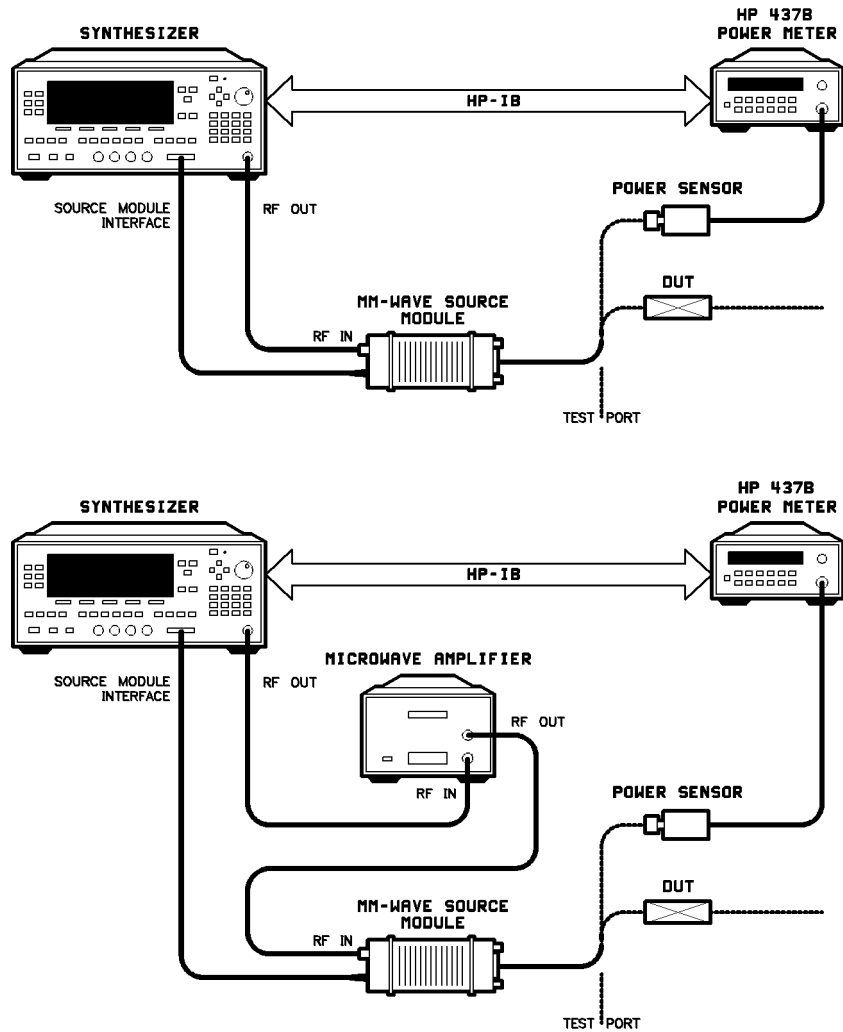

Figure 1-20.
1. The equipment setup shown in Figure 1-20 assumes that you have followed the steps necessary to correctly level the configuration. If you have questions about external leveling refer to earlier paragraphs titled, "Externally Leveling the Synthesizer."